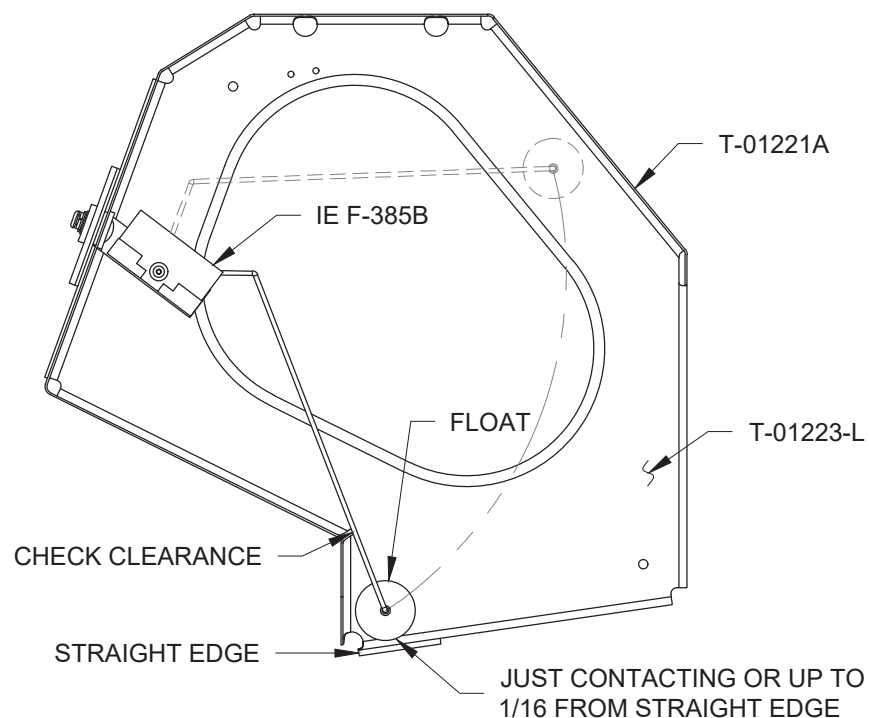

FIGURE 1: FLOAT TRAVEL
Step 1: Fine-tune the bends in the IE F-385B float arm to achieve proper travel of the float as shown in Figure 1.